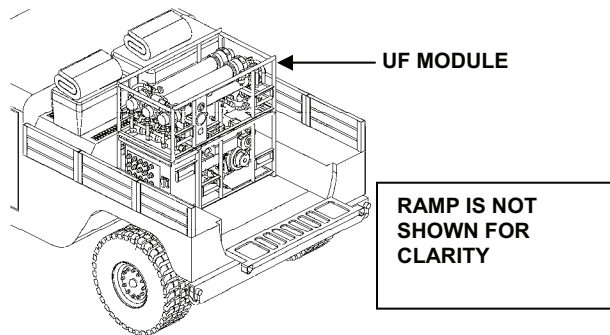

Figure 11. Offloading Ultrafiltration Module.
11. Offload the Ultrafiltration (UF) module from the vehicle. See Figure 11.